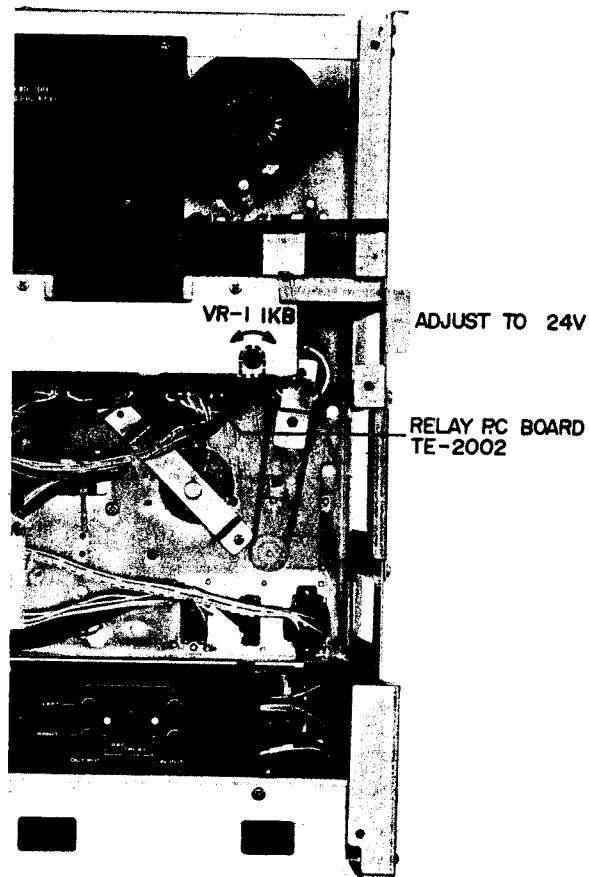

Fig. 11
1. D.C POWER SUPPLY VOLTAGE ADJUSTMENT (Refer to Fig. 11)